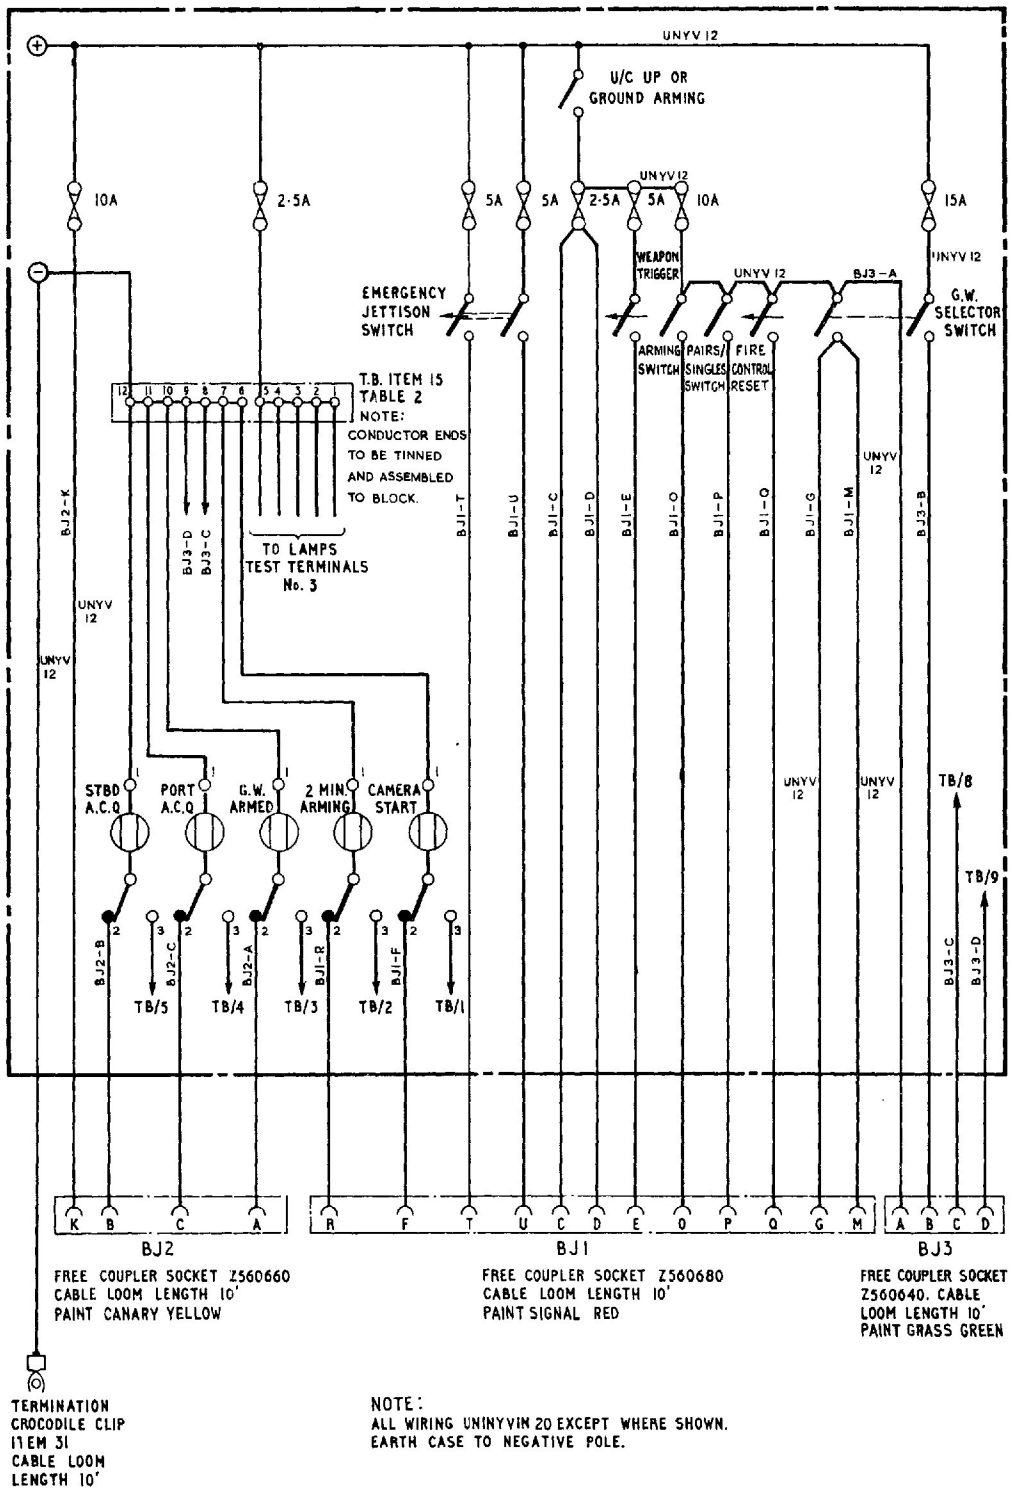

Fig. 5. Circuit Diagram
8. Refer to Fig. 5 for a circuit diagram of the test set, showing the leads which comprise the connectors, and Table 4 for components. Make up connectors as follows:—
- (1) Cut 15 pieces of Vin 20 cable and 5 pieces of Vin 12 cable, each 12 ft. 8 in. long and prepare one end of each cable.
- (2) Fit insulating sleeves to cables.
- (3) Bunch cables as shown in Fig. 5
9. Refer to Fig. 5 when connecting the cables of the test set and to Table 5 for details of cable connections. When routing and connecting cables within the test set allow sufficient spare in the cables to facilitate possible future servicing. Arrange the cables neatly in looms running down the rear panel, across the bottom of the test set and up the front panel.
(1) Lay the front panel, face down, with its lower edge near the lower edge of the front of the case.
(2) Position the rear panel in a similar manner at the rear of the case.
(3) Cut to length each cable, route and connect as shown in Fig. 5, fitting sleeves to the cable ends.
(4) Mark sleeves as shown in Fig. 5.
(5) Loom cables using Item 9, (Table 5).
(1) Connect a 28V d.c. supply to the terminals on the rear panel.
(2) Depress each indicator lamp in turn and check that the lamps light. (The maximum current drawn from the test set when testing a weapon pack is less than 6 amps.: however, self-testing draws less than 1 amp.)
(3) Make up a test lamp (24V, 2.4W) with leads, approximately 1 ft. long.
(4) Connect one lead to the test set negative terminal.
(5) Referring to Fig. 5, connect the other test lead in turn to the free coupler sockets and check that the test lamp lights when the appropriate switch is closed.